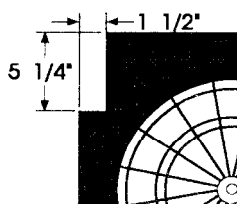

Fig. 4A
3. Install the new "web" and secure with four screws and 1/4-20 studs. **Note:** If the speaker is blocking installation, it will be necessary to cut a notch in the upper left-hand corner of the web as shown in Figure 4A.